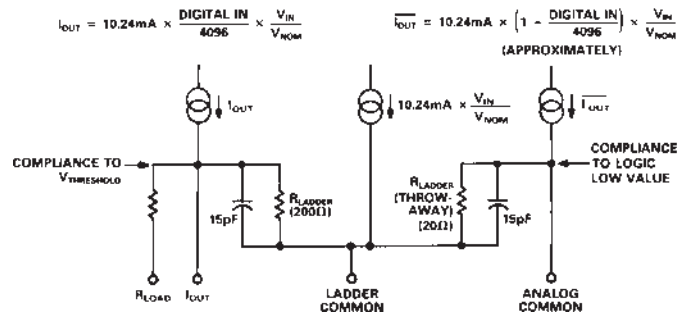

Figure 4. Equivalent Output Circuit
1Measured in  $I_{\text{OUT}}$  mode. Specified at nominal 5 V full-scale reference.2Measured in  $V_{\text{OUT}}$  mode, unless otherwise specified. Specified at nominal 5 V full-scale reference.3Total resistance. Refer to Figure 4.4At the major carry, driven by HCMOS logic.5 $V_{\text{OUT}} = 1 \text{ V p-p}$ ,  $V_{\text{IN}} = 10\%$  to  $110\%$ , 100 kHz. Digital Input All 1s.6 $V_{\text{IN}} = 200 \text{ mV p-p}$ , 1 MHz Sine Wave. Digital Input all 0s. See Figure 20.7Measured at  $15 \text{ V} \pm 10\%$  and  $12 \text{ V} \pm 10\%$ .Specifications shown in **boldface** are tested on all production units at final electrical test.
The AD668 has an output compliance range of  $-2.0$  V to  $+1.2$  V (with respect to the LCOM pin). The current steering output stages will be unaffected by changes in the output terminal voltage over this range. However, as shown in Figure 4, there is an equivalent output impedance of  $200 \Omega$  in parallel with  $15$  pF at the output terminal, producing an equivalent error current if the voltage deviates from the ladder common. This is a linear effect which does not change with input code. Operation beyond the maximum compliance limits may cause either output stage saturation or breakdown, resulting in non-linear performance. The positive compliance limit is not affected by the positive power supply, but is a function of the output current and the logic threshold voltage at  $V_{TH}$ , Pin 13.
The internal wiring and pinout of the AD668 are dictated in large part by current management constraints. When using low impedance, high current, high accuracy parts such as the AD668, great care must be taken in the routing of not only signal lines, but ground and supply lines as well. The following accounting provides a detailed description of the magnitudes and signal dependencies of the currents associated with each of the part's pins. These descriptions are consistent with the functional block diagram as well as the equivalent circuits provided in Figures 4, 5, and 6.
**$I_{OUT}$**  – the output current. In the current output mode with this node tied to a virtual ground, a 10.24 mA nominal full scale output current will flow from this pin. In the voltage output mode, with  $R_L$  grounded, half of the output current will flow out of  $R_L$  and the other half will flow out of LCOM. External resistive loading will cause current to be divided between LCOM,  $R_L$ , and  $I_{OUT}$  as Figure 4 suggests.
**ACOM** – as indicated in Figure 4, the current flowing out of this pin is effectively the complement of IOUT, varying with both analog and digital inputs. Using this current as a signal output is not generally advised, since it is untrimmed and its positive output compliance is limited to the logic low voltage.